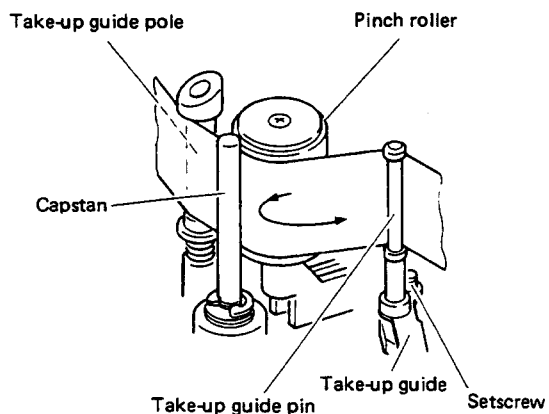

Fig. 2-25 Tape path adjustment
3. If abnormality is confirmed, turn the take-up guide set-screw (2 mm) to adjust. See Fig. 2-25.